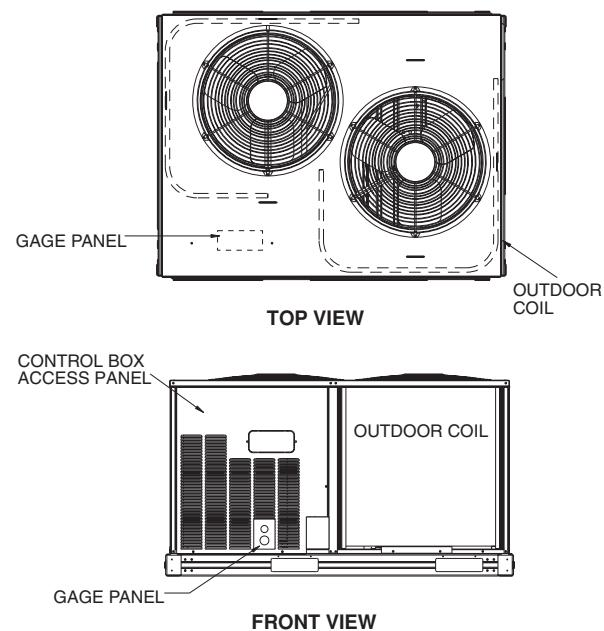

Fig. 7 — Gage Panels in 38ARD012,
38ARD012, 38ARQ008-012, 38ARS012, 38ARZ007-012 (see Fig. 7)
2. Hold the gage panel(s) against the basepan as shown in Fig. 7. Mark screw hole locations.